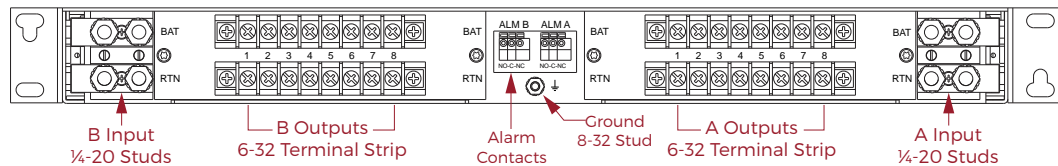

Figure 4. Back Panel View
9.1 Back View. Figure 4 shows the back of the DPP1U distribution panel. Inputs are at the left and right ends of the back panel. Side B outputs are at two rows of barrier terminal strips on the left side, and side A outputs are the same on the right side. At the center of the back panel are two spring clamp terminal blocks for the Form C relay contact outputs.
9.4 Output Connections. Output connections for A and B loads are shown in Figure 4. There are 8 sets of barrier terminal strip connections for each side, A and B. The connections are numbered to correspond with the numbers of the front panel breakers. The upper strip connections are from the battery through the breakers; the lower strip connections are the returns. Side B is on the left and side A on the right, as shown.